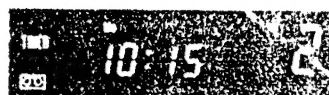

Fig. 12
5. Press the T-ADJ button to finish time setting. Then the colon only will flicker. (Fig. 12)